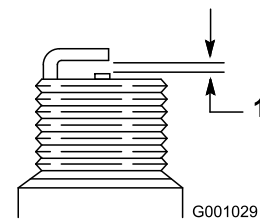

Figure 57
7. Set the gap between the electrodes on a new spark plug at 0.030 inch (0.76 mm) (Figure 57).